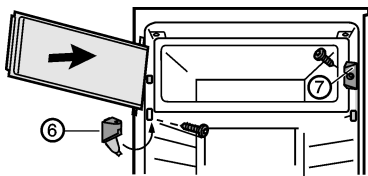

Fig. 3
- ▶ Fit closing element Fig. 3 (7).
- ▶ Fit turn hinge Fig. 3 (6) and fold the cover.